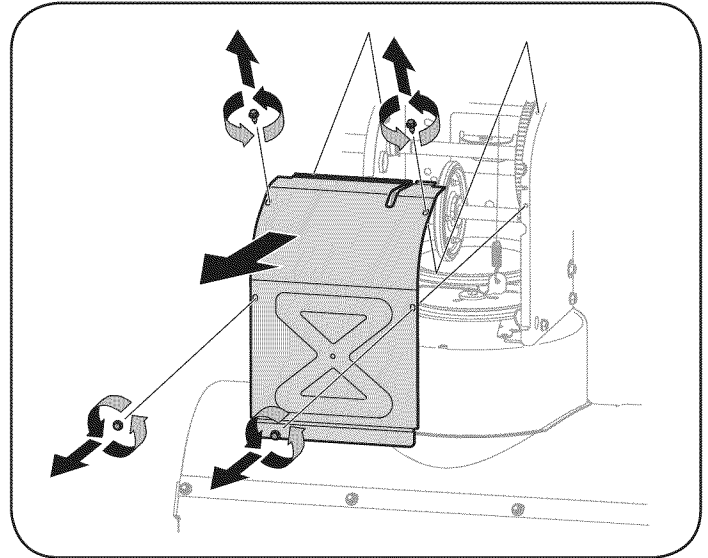

Figure 32
6. Remove the frame cover from the underside of the snow thrower by removing the self-tapping screws which secure it. See Figure 32.
3. Remove the frame cover from the underside of the snow thrower by removing the self-tapping screws which secure it. Refer to Figure 32.